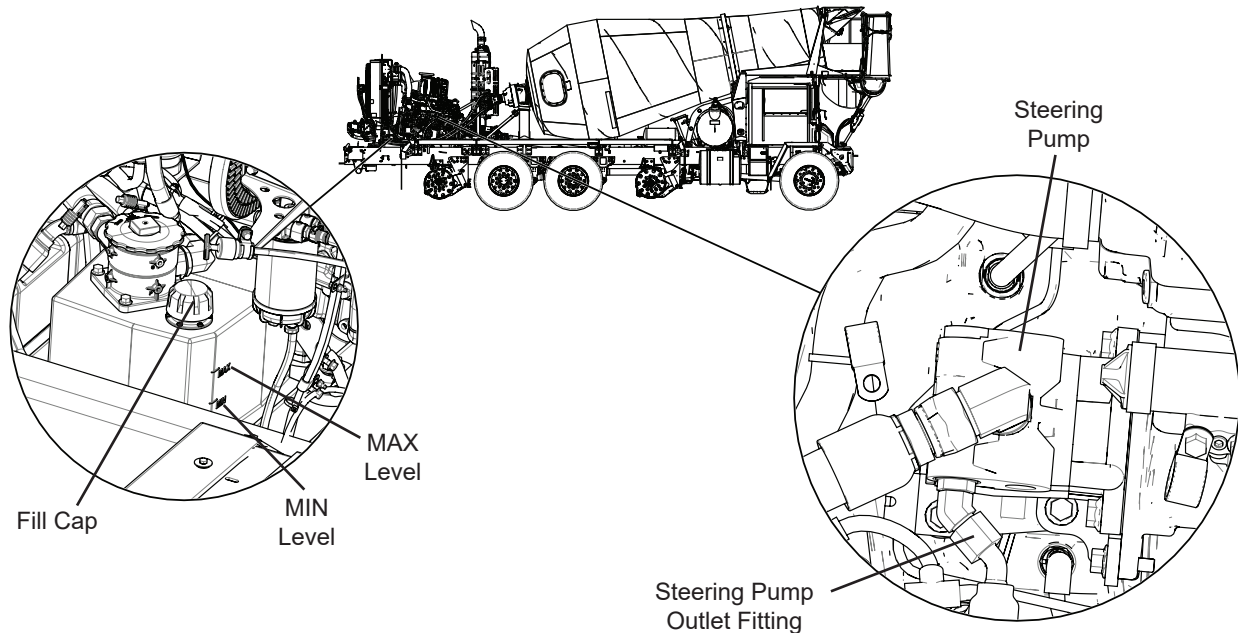

Figure 1 - Steering Pump Location
3. Check the hydraulic reservoir oil level, see Figure 1. Add hydraulic oil as required to bring the level to the MAX level mark.
6. Open the steering pump outlet fitting a quarter turn and wait until hydraulic oil starts to seep from the fitting. Tighten fitting when hydraulic oil is present. See Figure 1.